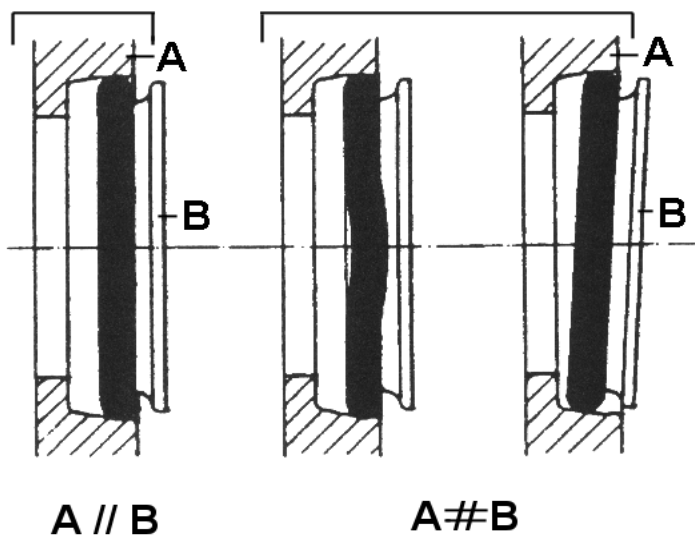

Figure 4c
4.3 Then pull the sealing ring over the clamping cone face. The sealing ring must be located straight and parallel to the slip-ring (see figure 4c); the moulded nose must point to the seal face.